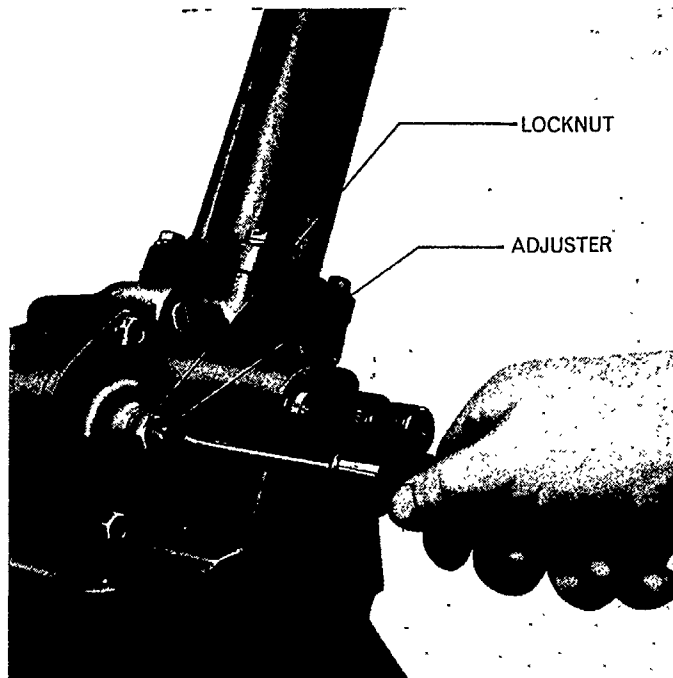

Figure 10
9. With steering gear in straight ahead position screw adjuster on forward rocker shaft anti-clockwise several turns, then screw the rear rocker shaft adjuster clockwise until there is no perceptible play in the left hand drop arm, and tighten locknut, Figure 10.